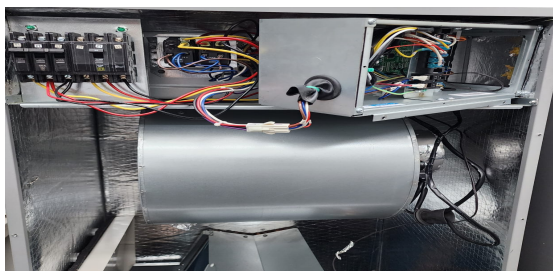

FIG. 2
4. Remove the AHU electrical box (see fig. 2) and metal plate covering the heater access opening.